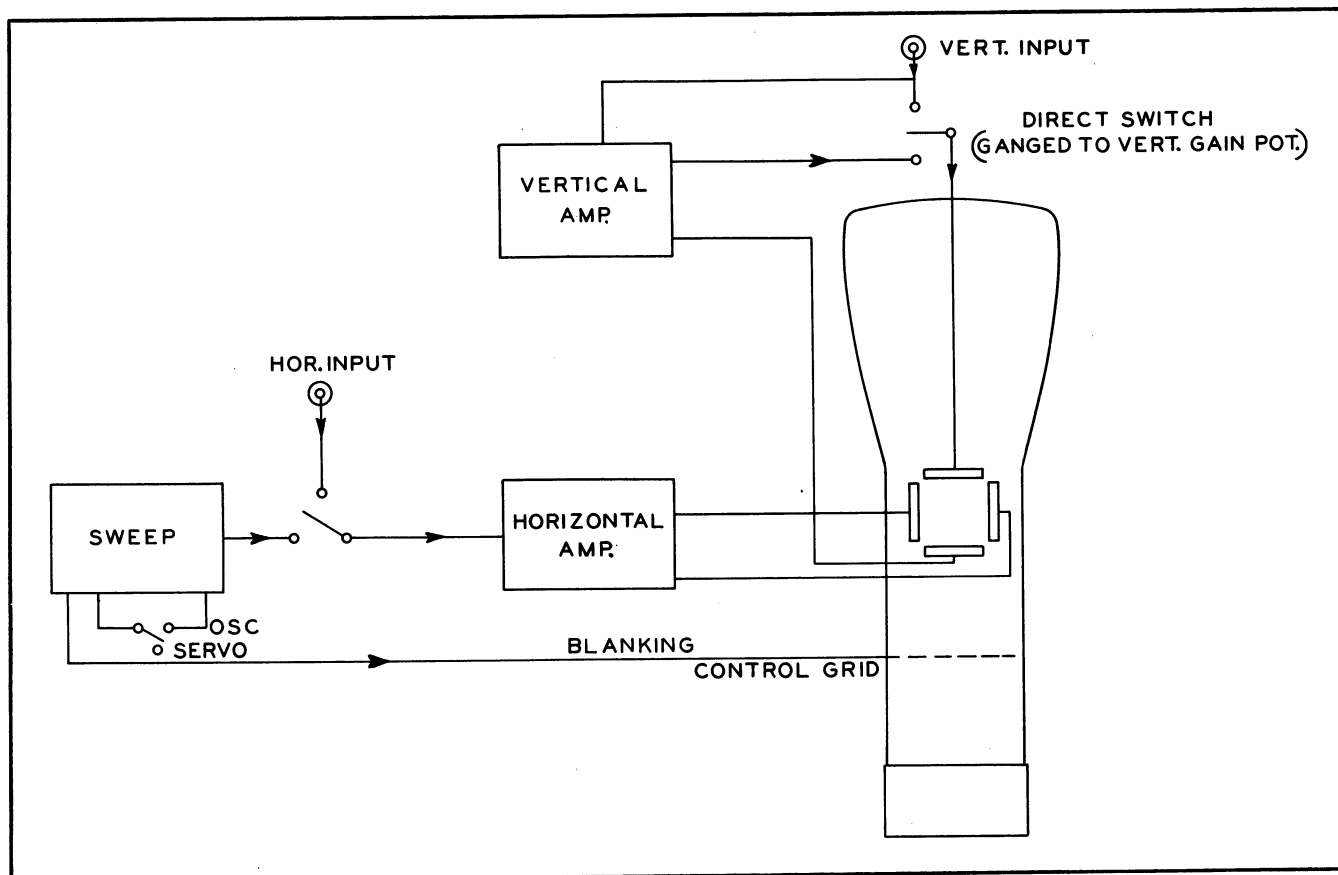

Figure 4-29. Block Diagram of CRO Channel
(4) In the self-oscillatory condition, this process repeats with negligible time between sweeps. (See fig. 4-29.) In the servo condition, however, the sweep is not repeated until the next triggering pulse appears at the synchronizing tubes. This waiting time between sweeps corresponds to zero bias at Vg-1. Tube (2) is induced to wait in the servo condition by means of overbias controlled by switch S-702 (fig. 8-5) which throws R-609 in and out of parallelism with R-605.
(5) A square wave is taken from potentiometer R-602 in the multivibrator and is applied to the grid of the cathode ray tube. This square wave is timed to begin and end with the sweep and raises the cathode ray tube grid to a point where conduction occurs only during the forward sweep. The negative portion of the square wave blanks out the return trace.
(6) This chassis contains a circuit for the introduction of external synchronizing voltage. This voltage is amplified and applied to the multivibrator in such a fashion that it controls the period of oscillation of the multivibrator. Thus the sweep will be timed by the ex-